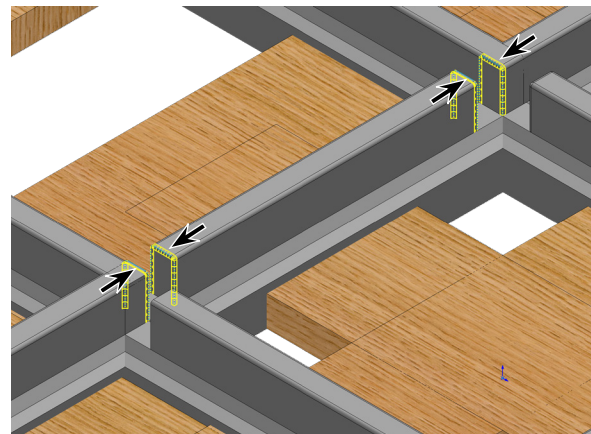
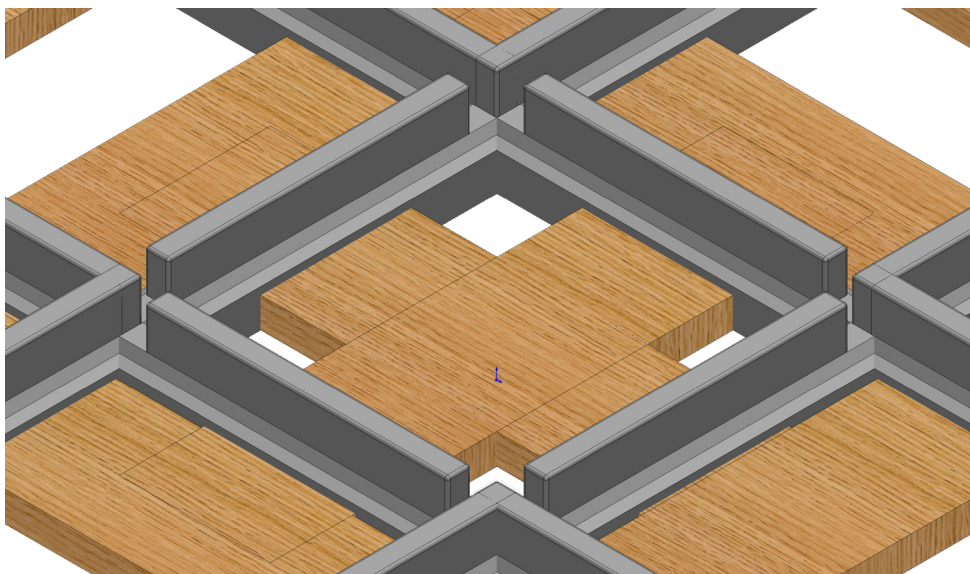

Fig. 21
Fig. 22
② Repeat at cut on the other 3 Rails, Fig. 21 and Fig. 22.